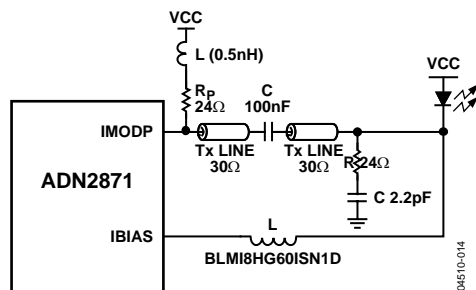

Figure 30. Recommended Interface for ADN2871 AC Coupling
The schematic in Figure 30 describes the recommended circuit for interfacing the ADN2871 to most TO-Can or Coax lasers. These lasers typically have impedances of  $5\ \Omega$  to  $7\ \Omega$ , and have axial leads. The circuit shown works over the full range of data rates from 155 Mbps to 3.3 Gbps including multirate operation (with no change to PAVCAP and ERCAP values); see the Typical Operating Characteristics for multirate performance examples. Coax lasers have special characteristics that make them difficult to interface to. They tend to have higher inductance, and their impedance is not well controlled. The circuit in Figure 30 operates by deliberately misterminating the transmission line on the laser side, while providing a very high quality matching network on the driver side. The impedance of the driver side matching network is very flat versus frequency and enables multirate operation. A series damping resistor should not be used.
The  $30\ \Omega$  transmission line used is a compromise between drive current required and total power consumed. Other transmission line values can be used, with some modification of the component values. The R and C snubber values in Figure 30,  $24\ \Omega$  and  $2.2\ \text{pF}$ , respectively, represent a starting point and must be tuned for the particular model of laser being used.  $R_p$ , the pull-up resistor is in series with a very small ( $0.5\ \text{nH}$ ) inductor. In some cases, an inductor is not required or can be accommodated with deliberate parasitic inductance, such as a thin trace or a via, placed on the PC board.
Recommended component layouts and gerber files are available by contacting the factory. Note that the circuit in Figure 30 can supply up to 56 mA of modulation current to the laser, sufficient for most lasers available today. Higher currents can be accommodated by changing transmission lines and backmatch values; contact factory for recommendations. This interface circuit is not recommended for butterfly-style lasers or other lasers with  $25\ \Omega$  characteristic impedance. Instead, a  $25\ \Omega$  transmission line and inductive (instead of resistive) pull-up is recommended; contact the factory for recommendations.
**Table 6. ADN2871 Response to Various Single-Point Faults in AC-Coupled Configuration as Shown in Figure 30**